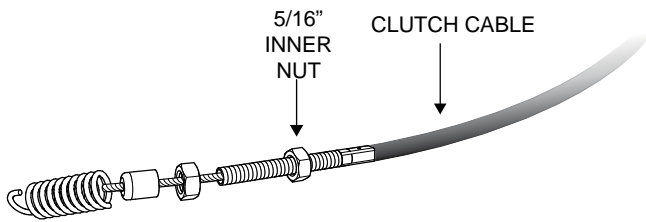

Figure 17. Inner Nut Adjustment
7. Adjust the 5/16" inner nut (Figure 17) for a 7/8" distance from the threaded end on the clutch cable to the inner nut.